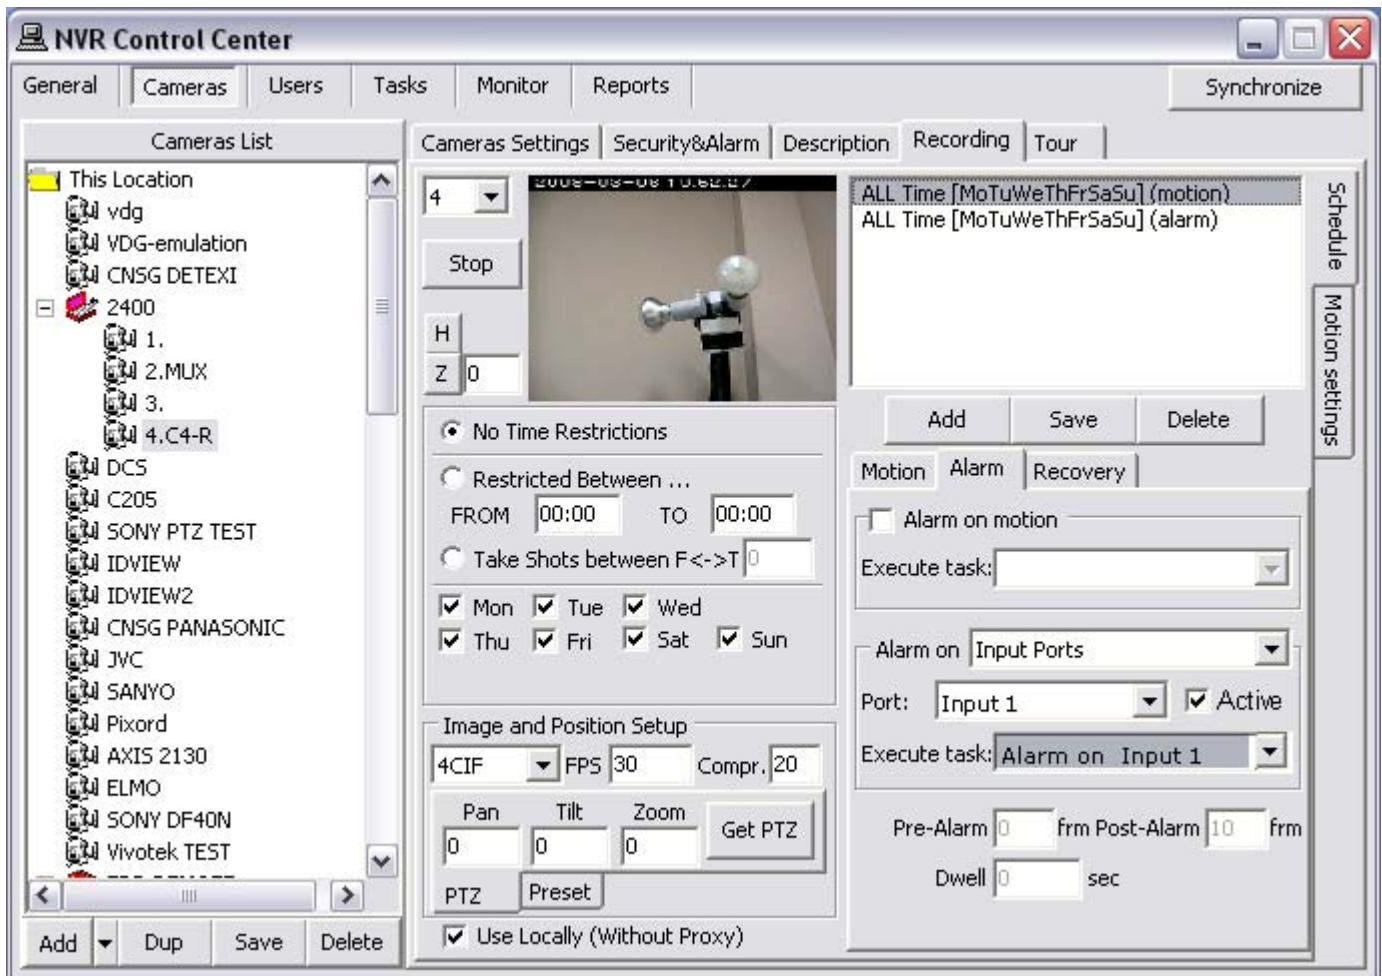

Fig 111. NVR Control Center — Recording — Schedule — Alarm
1. In the **NVR Control Center** — **Cameras** (Fig 111).